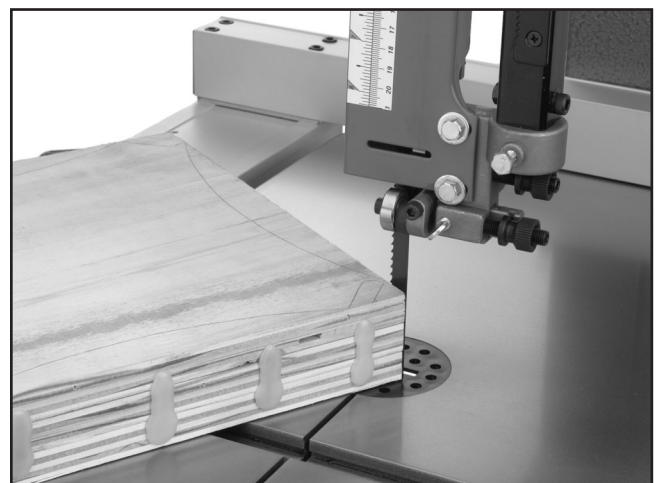

Figure 46. Typical stacked cut.
5. Cut the stack of pieces as though you were cutting a single piece. Follow your layout line with the blade kerf on the waste side of your line as shown in **Figure 46**.